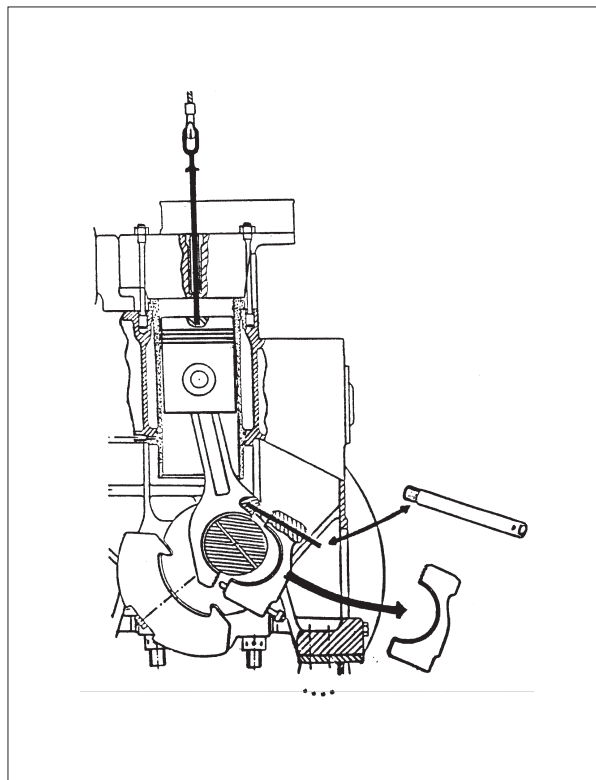

Fig. 2.
2) Before removing connecting rod bearing cap, the especially long eye bolt is mounted. It is inserted through the fuel injector sleeve and is screwed into the thread hole in the piston, see fig. 2. Then by means of a tackle it is slightly tightened.